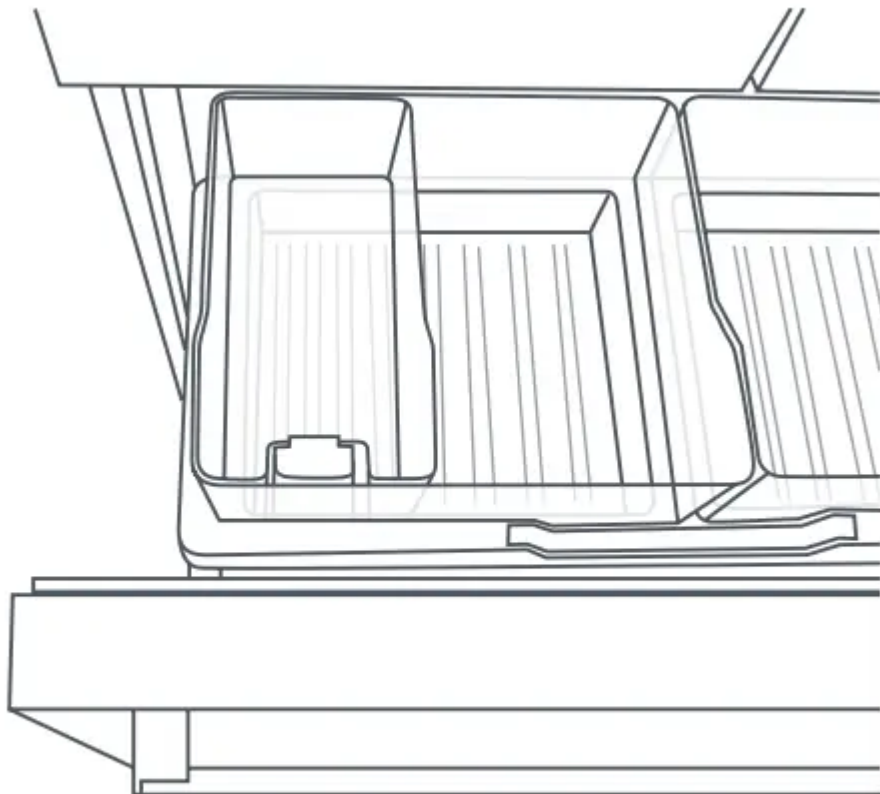

Fig. 24 Ice storage bin and scoop in correct position
- If the bin is full of ice, inserted incorrectly or if all bins are removed, the ice maker will not operate. When the bin is inserted correctly the scoop will be on the right hand side of the bin for models E402B, E442B, E522B, RF522W and RF522A and at the front of the bin for models RF610A and RF540A (refer to Fig.24).